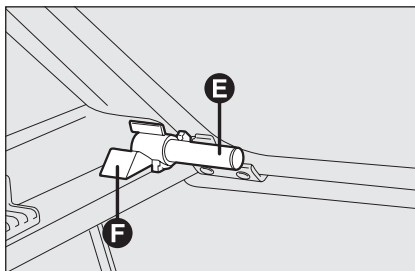

fig. 75
- ☐ release the pins **E**-**fig. 75** set outside the shelf from their seats **F** on side supports, then remove the rear parcel shelf.